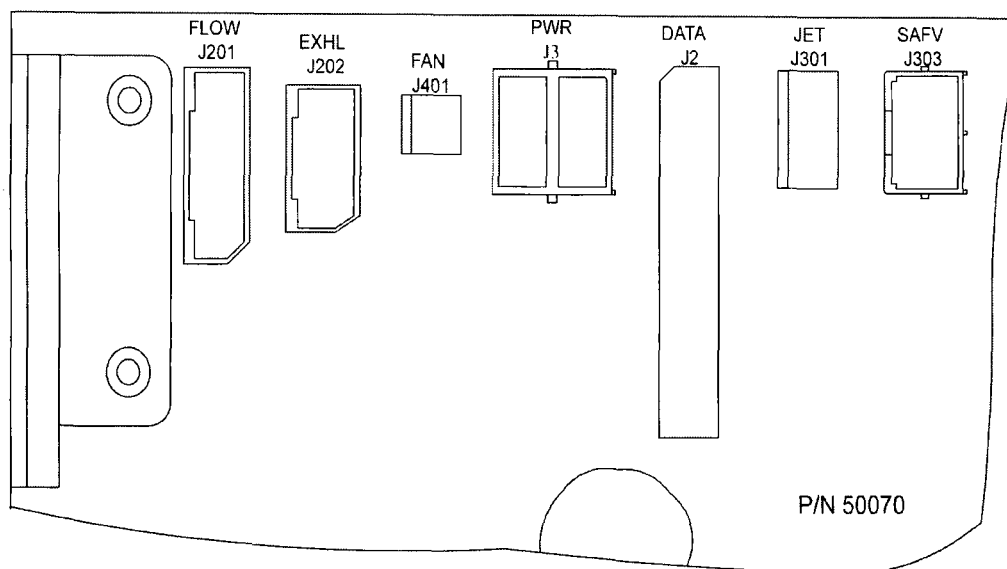

Figure 5.14
- 34.4 Master manometer reading must be -3.0 to -7.5 cmH2O. Record the result on the OVCS. Reinstall diaphragm. Turn the VIP OFF and reconnect the Exhalation Valve to J202 on Power Supply PCB. (See figure 5.14).